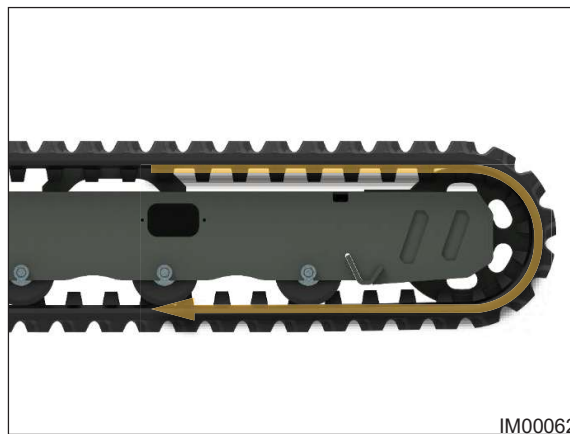

Fig: 11.5 - Rotating Track
6. If the grease does not start to drain out then slowly rotating the track can help (Fig: 11.5).